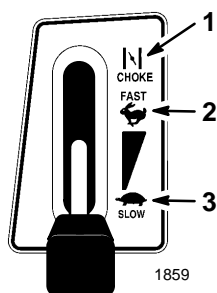

Figure 7
6. After the engine starts, slowly move the throttle lever to “FAST” (Fig. 7). If the engine stalls or hesitates, move the throttle lever back to “CHOKE” for a few seconds. Then move the throttle lever to “FAST.” Repeat this as required.
4. Move the throttle lever to “CHOKE” (Fig. 7).
1. Move the throttle lever to “SLOW” (Fig. 7).